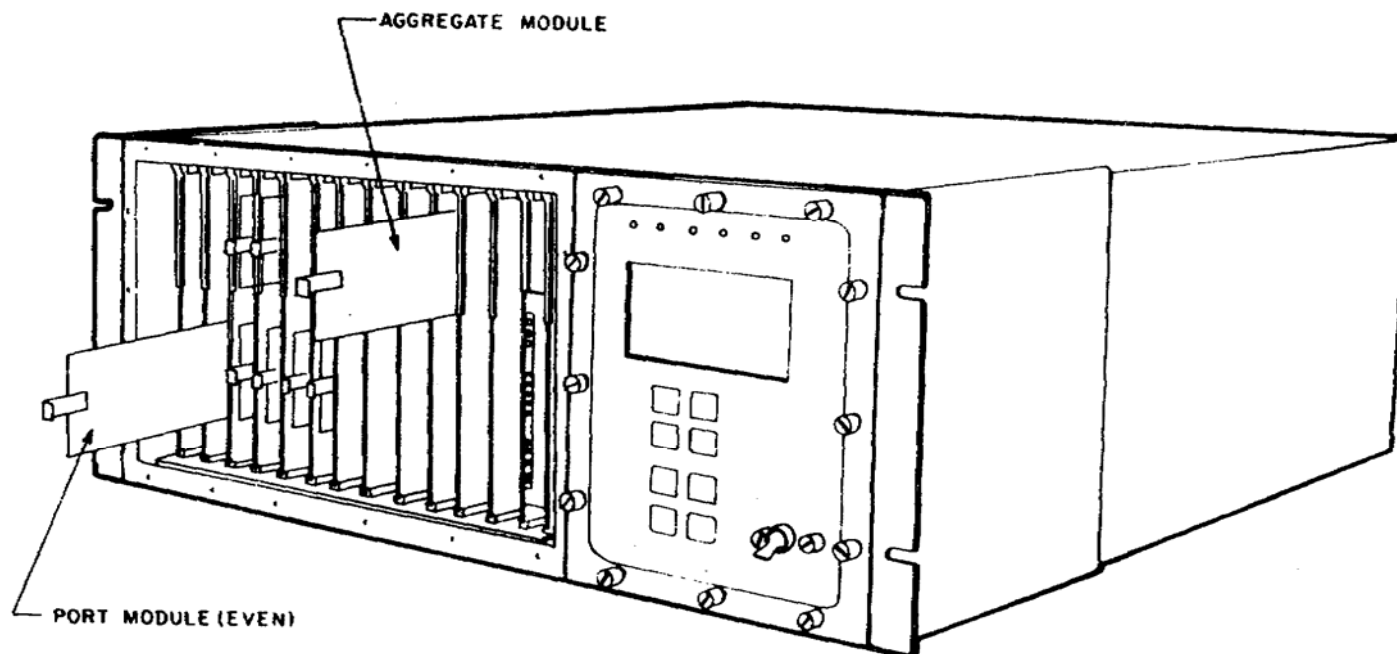

Figure 5. Removal of Port and Aggregate Modules.
(1) User specified modules. Each port carrier can have up to two port modules, but each aggregate carrier must have one aggregate module.
- (b) Slide module from appropriate carrier module (see figure 5).
(2) Common equipment modules, except interface.
(3) Interface module.